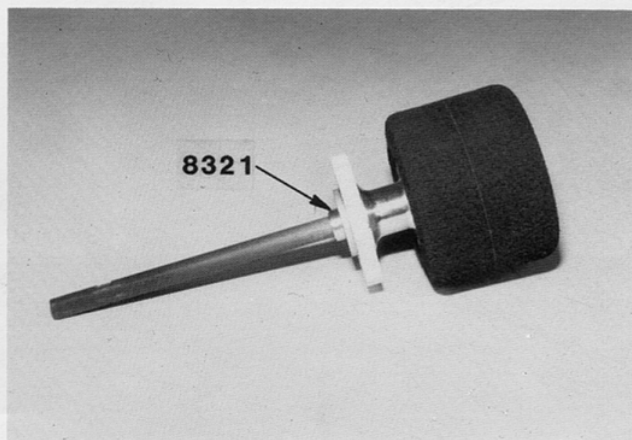

Fig. 68
□ **Figs. 68 & 69**—Slip a #8321 aluminum spacer onto the axle so that the stepped end of the spacer will be touching the #897 ball bearing in the rear pod. Slip the rear axle assembly into the rear pod, making sure the spur gear clears the pinion gear.